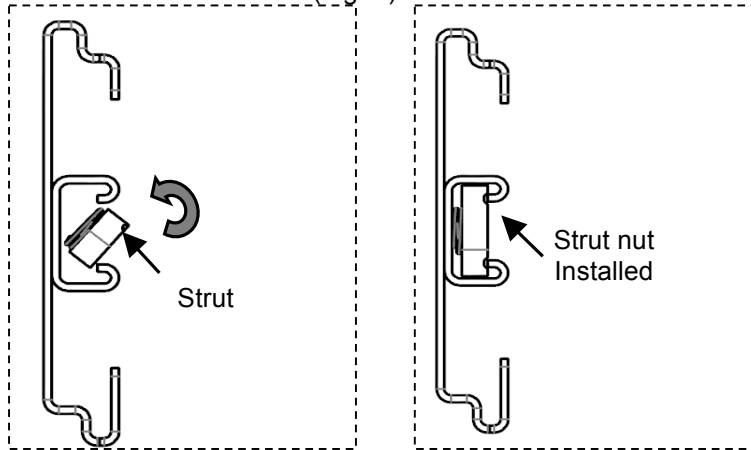

Fig. 6
2. Insert Strut Nuts in slides (Fig. 6)